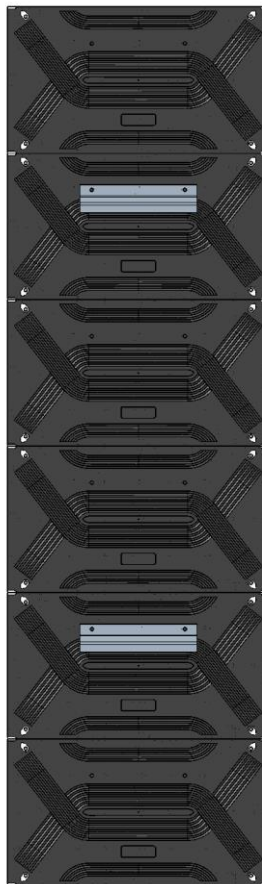

Figure 7
4. The integrated LED display is shipped with the cabinets arranged in a column according to their numbers, with a total of 6 columns arranged for 162 inches; The cabinets assembled in columns have been pre-installed with back hooks and edging (see Figure 7).
13. Install the cabinets according to the 5.2.2 steps of those for the floor standing installation, Refer to Figure 7 for the hook position